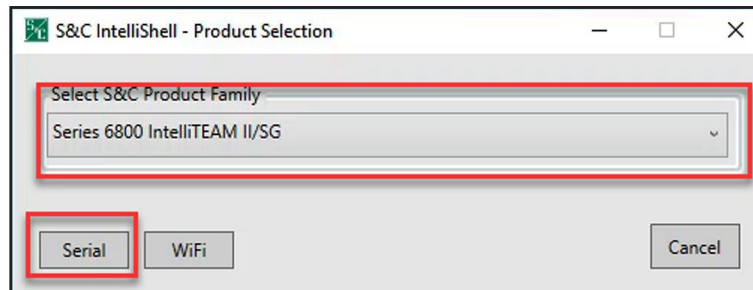

Figure 54. The Product Selection and Serial connection option.
STEP 2. Select the product on which to perform the factory reset and click on the **Serial** button. See Figure 54.